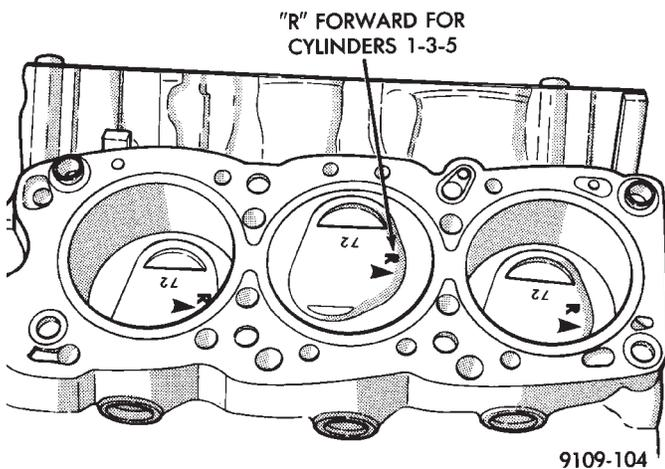

Fig. 2 Mark Pistons
- (1) Mark Identify Pistons. **The pistons are not interchangeable from bank to bank** (Fig. 2).